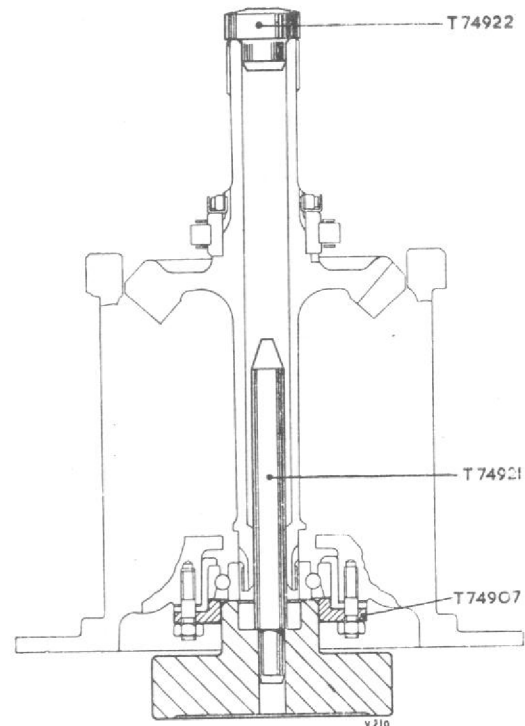
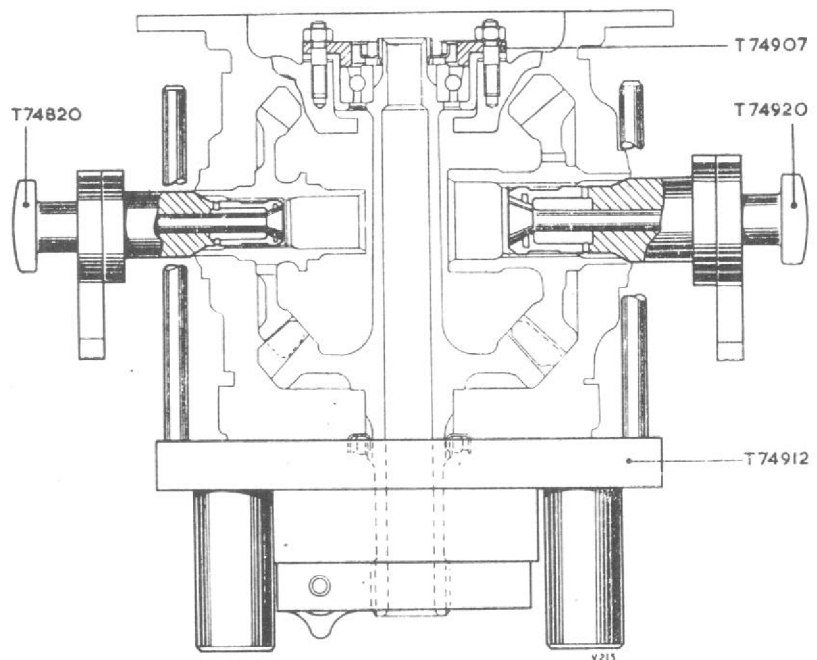

Fig. 14. Pressing the horizontal shaft into the centre housing
Fig. 15. Checking the backlash between the vertical drive bevel gear and the bevel gear on the horizontal shaft
- (1) Fit retaining ring T74907 to the front bearing housing and secure with four $\frac{1}{4}$ in. B.S.F. nuts.
- (2) Assemble the horizontal shaft to the centre housing, inserting the shaft into the housing from the rear.
- (3) Place the centre housing on press block T74921, the retaining ring on the front bearing sitting on the spigot of the press block. Position adapter T74922 in the bore of the shaft and press the shaft into the centre housing (fig. 14).
- (4) Secure the rear bearing housing with six new tab-washers (Part No. AGS518E) and $\frac{1}{4}$ in. B.S.F. nuts; do not lock the nuts.
- (5) Place the centre housing on vice block T74912 front flange uppermost (fig. 15).
- (6) Assemble a new spacer ring (Part No. 606275), a new cup-locking washer (Part No. N2857) and ring nut, tighten this nut to the torque loading specified in Chapter 22. Do not lock the nut.